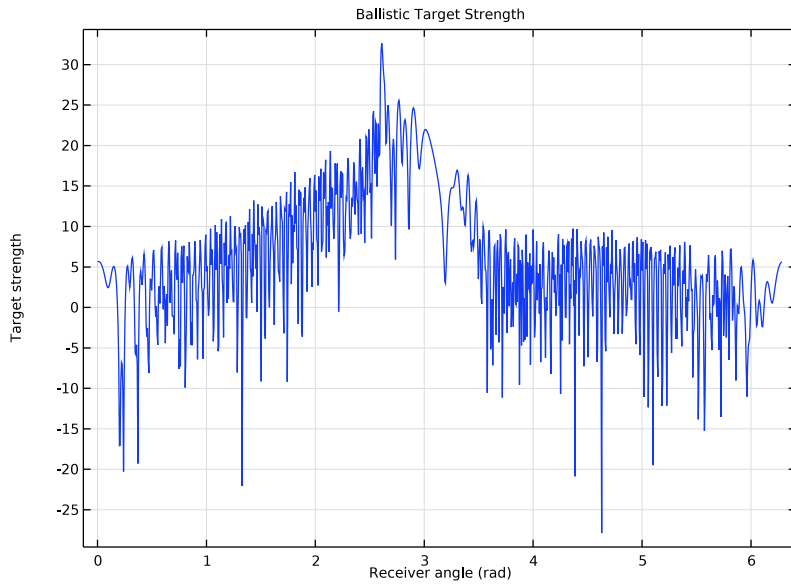

Figure 6: The plot shows the target strength TS.
Finally, the ballistic target strength (TS) for the current configuration of source and scatterer is depicted in Figure 6.